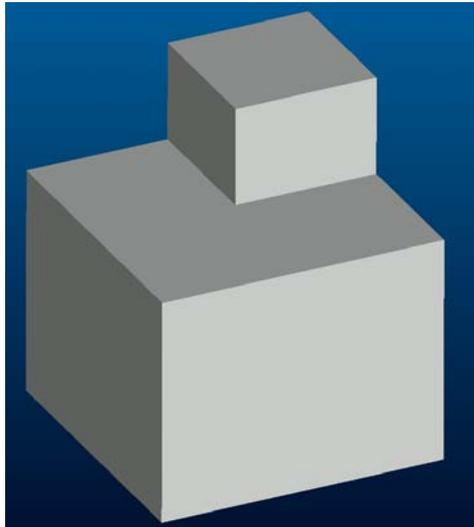

Figure 1
1. In Pro/ENGINEER Part mode, create a solid part model as shown in Figure 1.